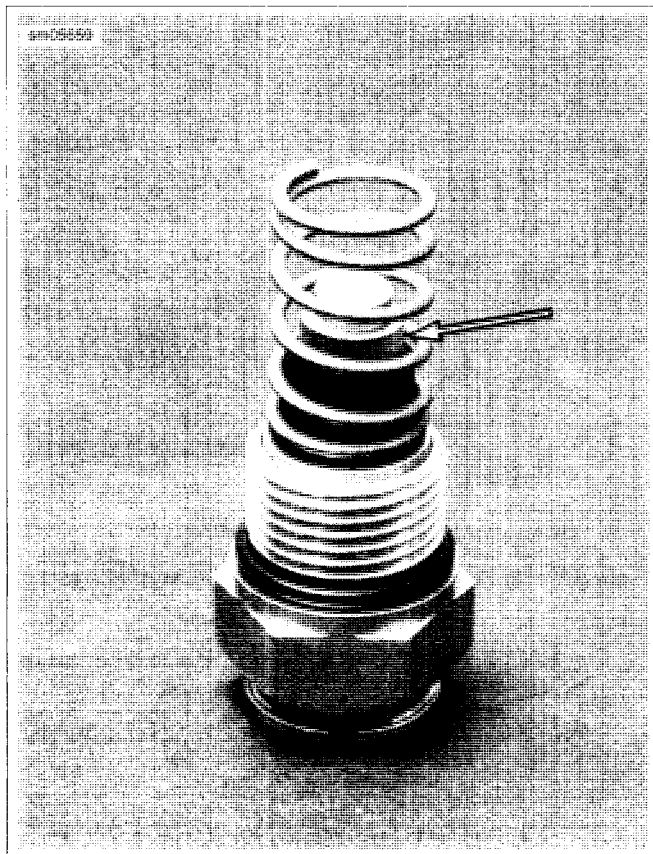

Figure 3-173. Thermostat: XR Models
3. See Figure 3-173. Inspect thermostat spring for distortion or cracks. Inspect rubber seal for damage. Replace thermostat assembly as necessary.